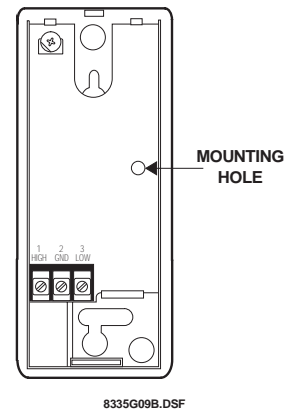

Figure 8. Mounting Hole Location
- 6) Mark the mounting hole location (see Figure 8).